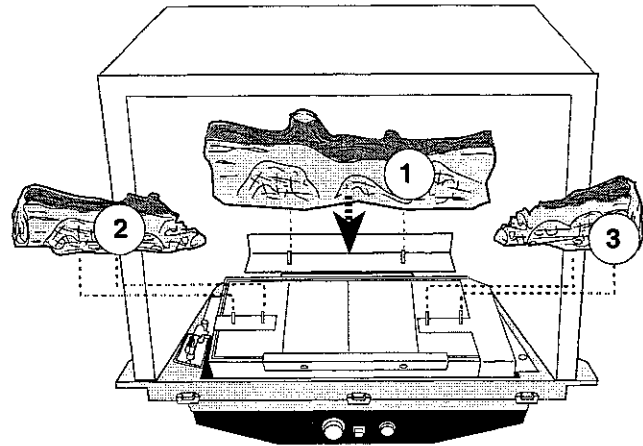

Fig. 20. Install the back, left, and right logs.
- Install the rear log (#1, Fig. 20) by engaging holes on its bottom surface with pins on the sheet-metal shelf at the back of the firebox.
- Install the left and right middle logs (#2 and 3, Fig. 20) by engaging holes on their bottom surfaces with pins on the burner brackets (Fig. 20).